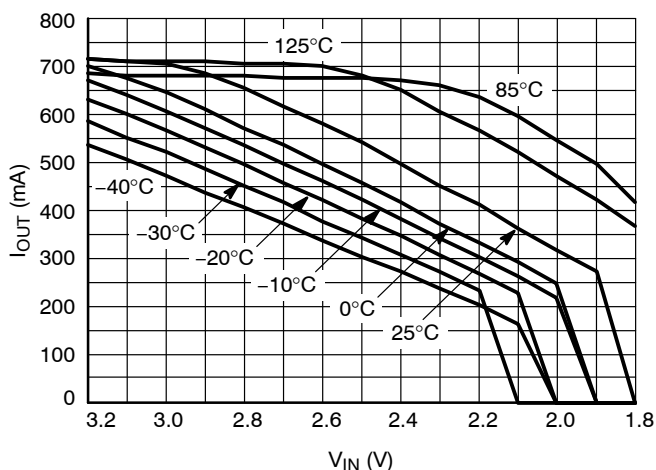

Figure 22. Output Current Capability for the 1.5 V Version
22. For output current capability for  $T_A < 0^{\circ}\text{C}$ , please refer to Figure 22.